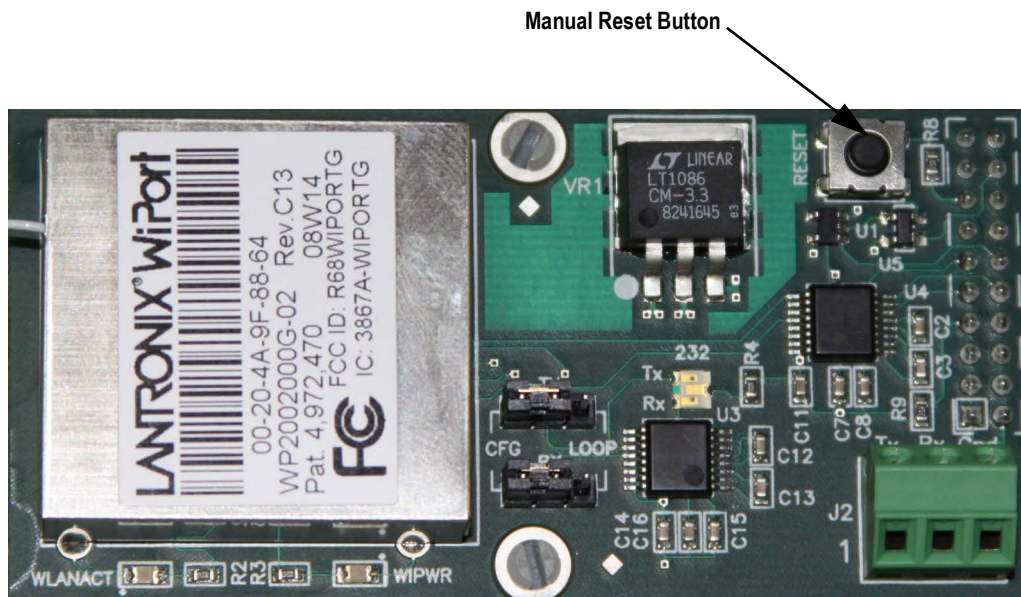

Figure 4-8. Manual Reset Button location on WLAN option card
- Reset the WLAN option card by pressing the manual reset button shown in Figure 4-8, and immediately upon release, enter three lowercase x characters (xxx) at the same time.